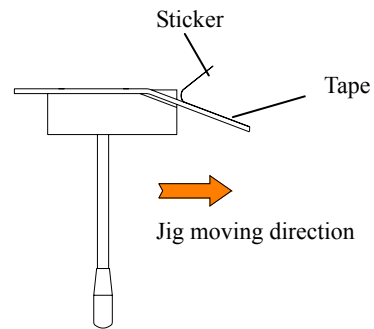

Fig. 5.6 Use of jig
- (4) **Attachment of tape:** Remove the backing as shown in Fig. 5.6, and attach the tape straight on the specified position on the steel strip by clamping the tape with a jig. (Figs. 5.6 and 5.7)